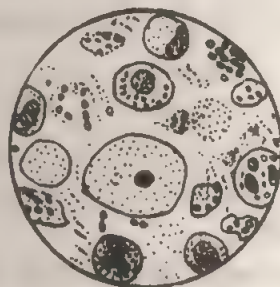

Fig. 8.2 Pneumonia.
(1) **Pneumonia.** Causative agent is a bacterium (*Pneumococcus*). They usually infect the respiration passages and the lungs (Fig 8.2)